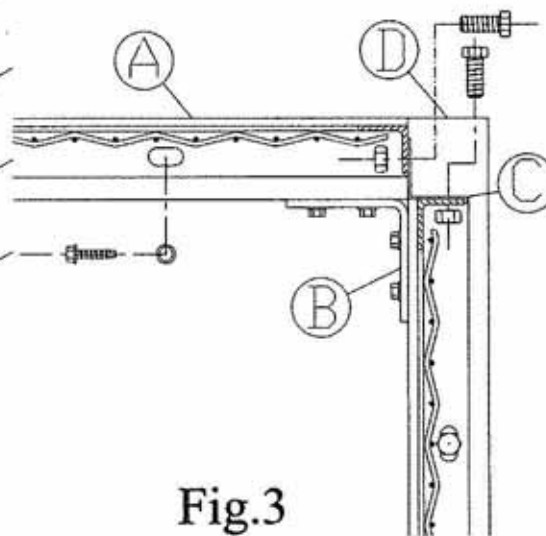

Fig.3
5. Install slotted angle (C) on top of wall panels per instruction page 19.
7. Use self drilling screws to attach panels to horizontal ceiling tubes Fig.3.